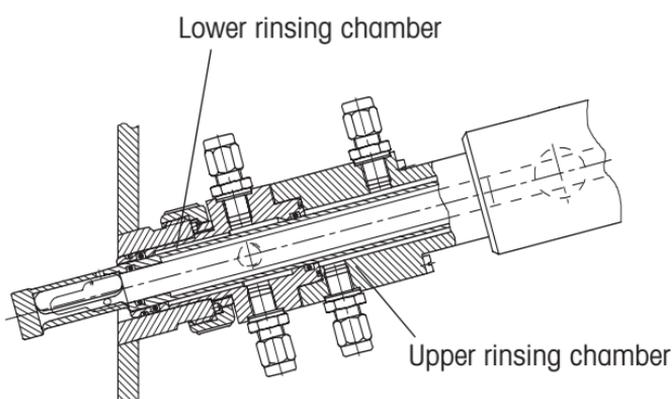

Figure 1.1 "IN" Position
3. The retractable member must not be inserted without the electrode in place (see Fig. 1.1).
Important: It is essential that the two closely adjacent fittings point vertically downwards (see Fig. 1.1/1.2). Do not mount horizontally.